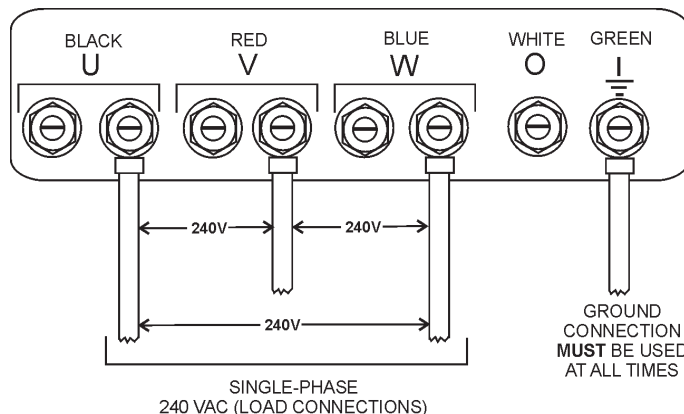

Figure 24. UVWO Terminal Lugs
2. Connect the load wires to the UVWO terminals as shown in Figure 24.